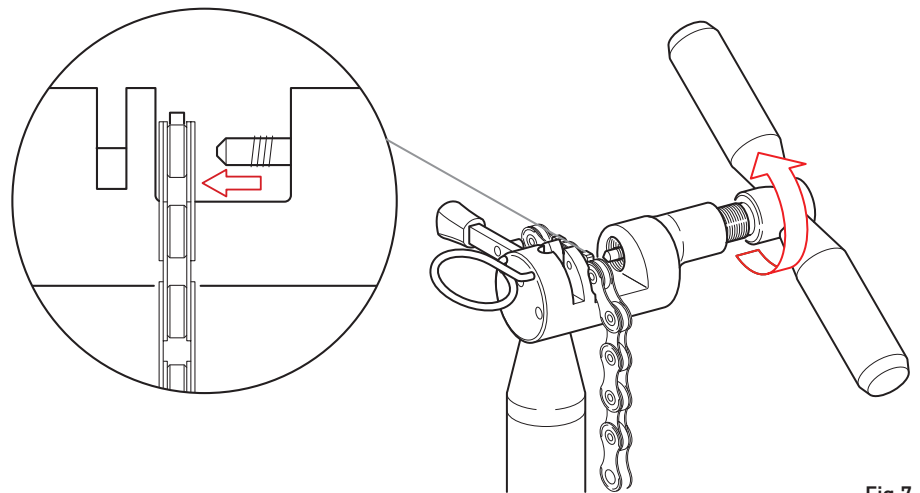

Fig.7
- Tighten the tool until the small pin emerges completely from the hole in the link (Fig. 7).